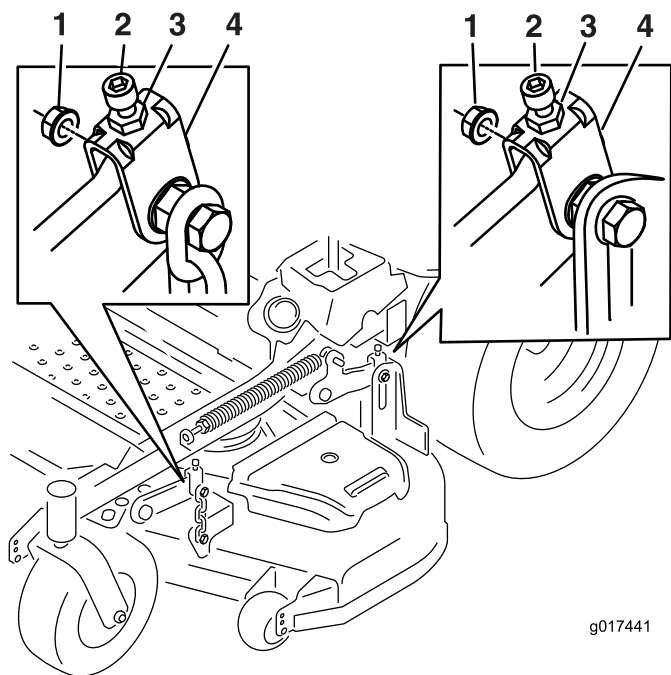

Figure 73
10. If needed, loosen the whizlock nut on the side of the yoke and the jam nut on top. Fine tune the screw adjuster by turning it to get 3 inch (7.6 mm) height (see Figure 73).
16. Fine tune the screw adjuster by turning it to get 3-1/4 inches (8.3 mm) height (Figure 73).